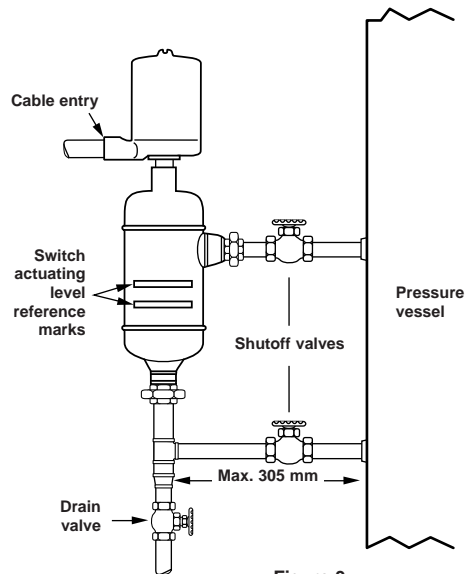

Figure 3
Figure 3 shows a typical piping installation of a Magnetrol Series 75 control to a pressure vessel. Level decals on control identify the actuation levels for a unit with three switches at minimum specific gravity. Refer to the Actuation Level charts on Page 8 for the actuation levels for a unit with one switch at different minimum specific gravities.
- a. Close shut-off valves (if so equipped) to isolate control from tank. Drain off liquid in float chamber. See **Figure 3** on page 4.